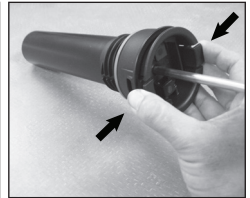

Figure 2
2. To remove pump cap from pump barrel, squeeze the tabs on the cap and pull away from barrel. (See Figure 2)